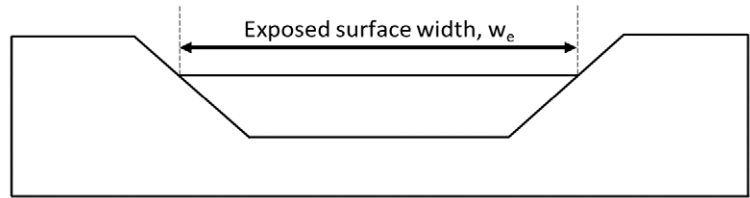

Figure 11.2. Channel section view showing exposed surface width
2. Find out the exposed surface width (w_e , see Figure 11.2).